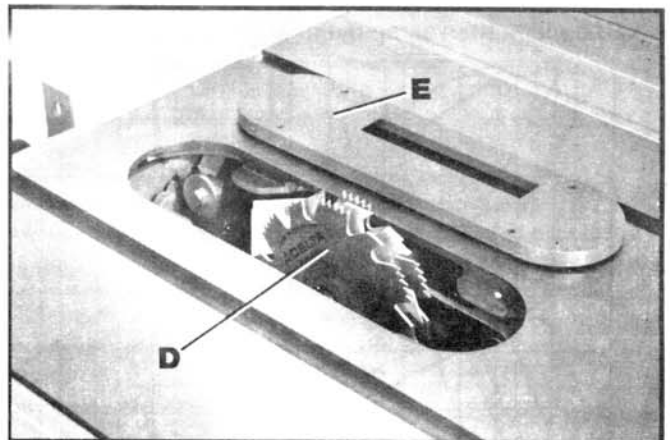
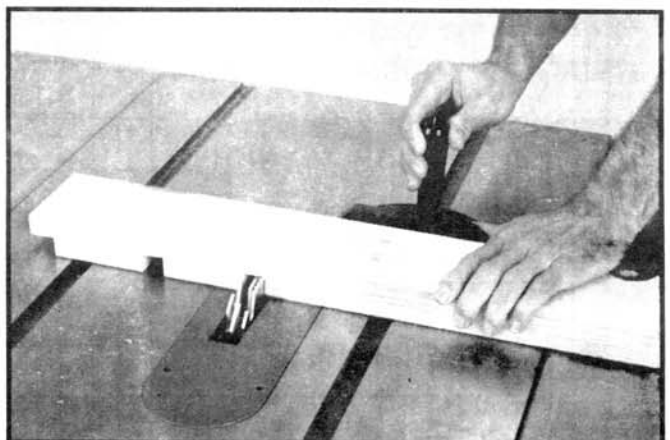

Fig. 68
Fig. 69
The dado head set (D) Fig. 68, is assembled to the saw arbor in the same manner as the saw blade. The guard, splitter and anti-kickback finger assembly cannot be used when dadoing and must be removed from the saw. In place of the guard, auxiliary jigs or fixtures and push sticks and feather boards should be used. Also, the accessory dado head table insert (E) Fig. 68, must be used in place of the standard table insert. Fig. 69, shows a typical dado operation using the miter gage as a guide.